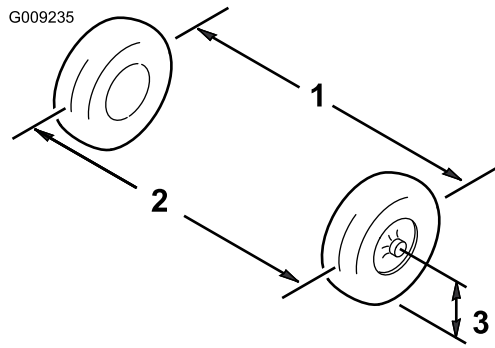

Figure 46
- Measure the distance between both of the front tires at the axle height at both the front and rear of the front tires (Figure 46).